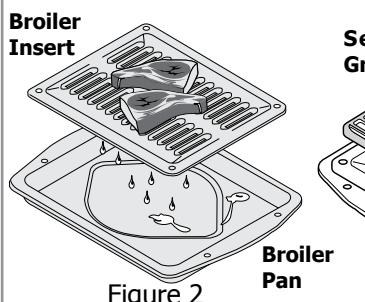

Figure 2
This mode is best for meats, fish and poultry up to 1" thick. Broiling is a method of cooking tender cuts of meat by direct heat under the broil element of the oven. The high heat cooks quickly and gives a rich, brown outer appearance. The **BROIL** pad controls the Broil feature. An optional Searing Grill, Broiler Pan and Insert are available via the enclosed accessories brochure (Figure 2 & 3). The optional broil pan and broil pan insert used together allow dripping grease to drain and be kept away from the high heat of the oven broiler. The oven can be programmed to broil at any temperature from 400°F to 550°F (204°C to 288°C) with a default temperature of 550°F (288°C).
- Always use the broiler pan and its insert when broiling. It allows the dripping grease to be kept away from the high heat of the broil element (see Figure 2).